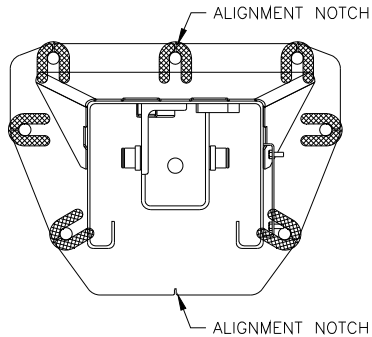

Fig 2 – Column Shimming
- 8) Shim both columns to plumb using the shims provided as shown in **Fig 2**. DO NOT shim more than 1/2" at any given point. Use a level no less than 24" in length to plumb columns.